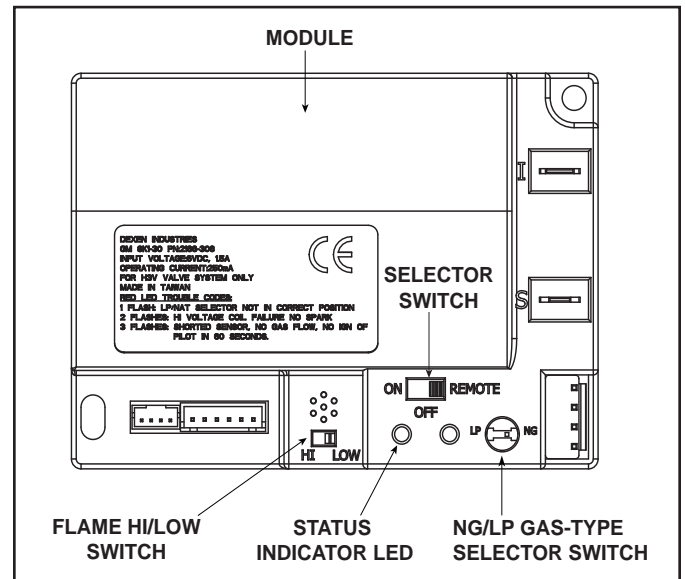

Figure 2.1 Control Module
1. The control module has an ON/OFF/REMOTE selector switch that must be set. See Figure 2.1.